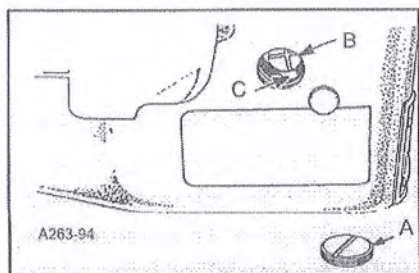

FIG.12
When change in stitch length is required,remove large plug screw(A, Fig. 12).Loosen feed rocker driving link screw(B)in lever (C).Moving the feed rocker driving link up in the lever slot lengthens the stitch,moving it down ,shortens the stitch, Retighten link screw(B)securely and replace plug screw(A).